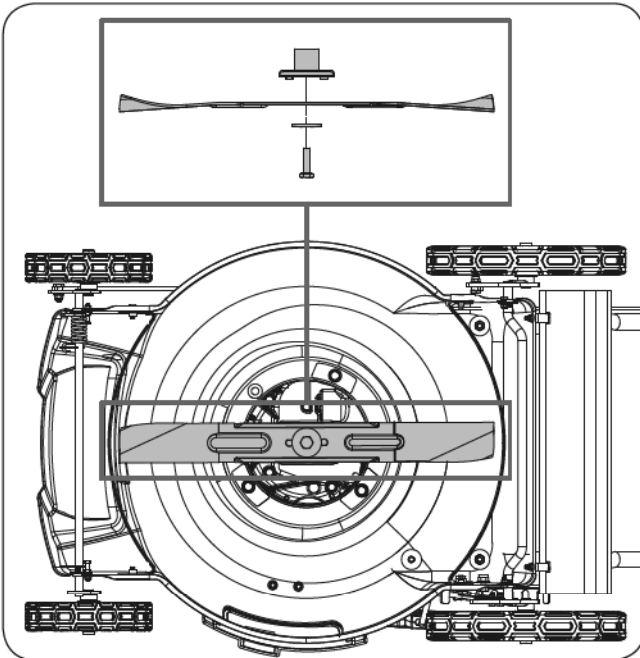

Figure 15
4. Remove the blade, saving all mounting hardware. Examine the blade support and blade bolt to see if there is damage. Examine the motor shaft to make sure that it is not bent. (See **Figure 15**)